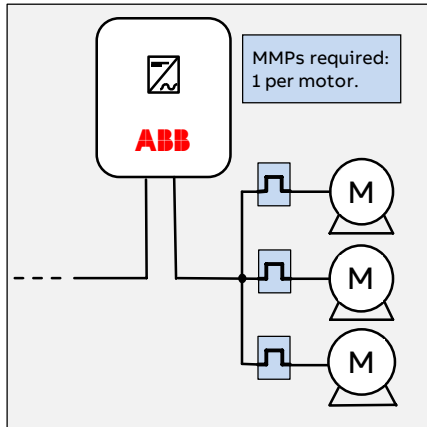

Figure 2: One-line drawing
- Separate motor overloads/protectors (MMPs) are required to provide individual motor protection. Either thermal or electronic designs can be used. See Figure 2.